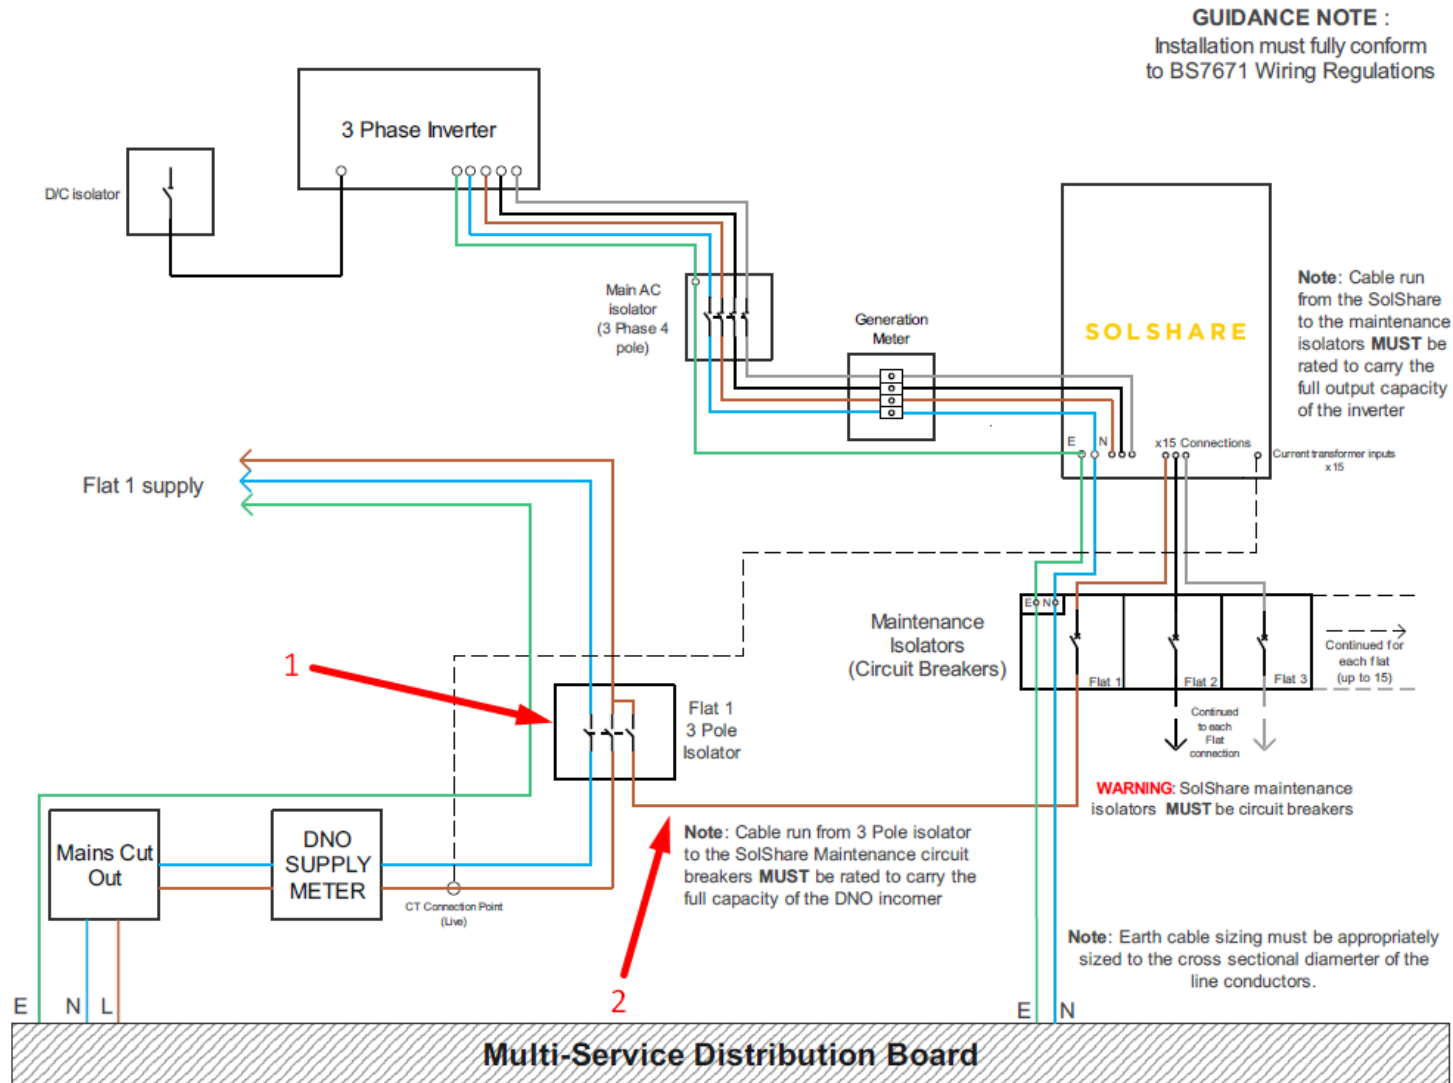

Figure 5: SLD example when energy meters are located outside of the flats.
- **Three-pole isolator (meter isolator)** – The typical two-pole meter isolator is replaced with a three-pole isolator to create the solar point of connection. When isolated it must disconnect the flat from the DNO supply, and solar. This is arrow 1 on Figure 5 in Appendix.
- **Cable sizing** – The solar output cable (arrow 2 on Figure 5 in Appendix) **must** be rated to carry full capacity of DNO fuse. This is because a fault on this cable will be supplied by the DNO incomer.